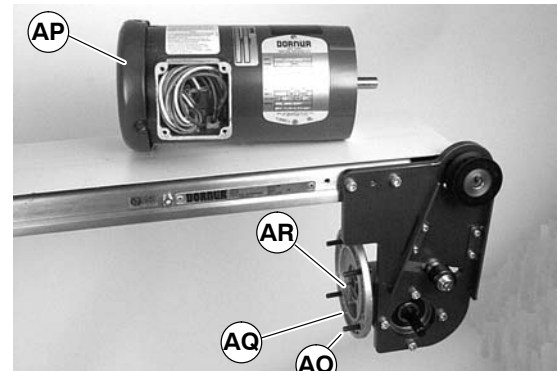

Figure 33
4. Remove four screws (AO of Figure 33). Detach motor (AP) from gear reducer (AQ). Retain motor output shaft key (AR).